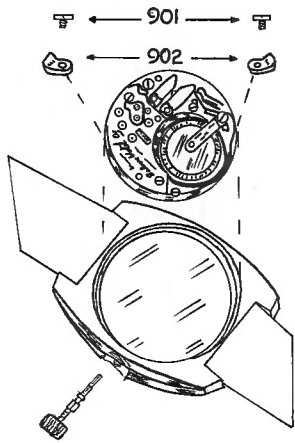

Fig. 25
The movement is usually held in place by 2 case clamps (902) and 2 screws (901). Release clamps. (Fig. 25).